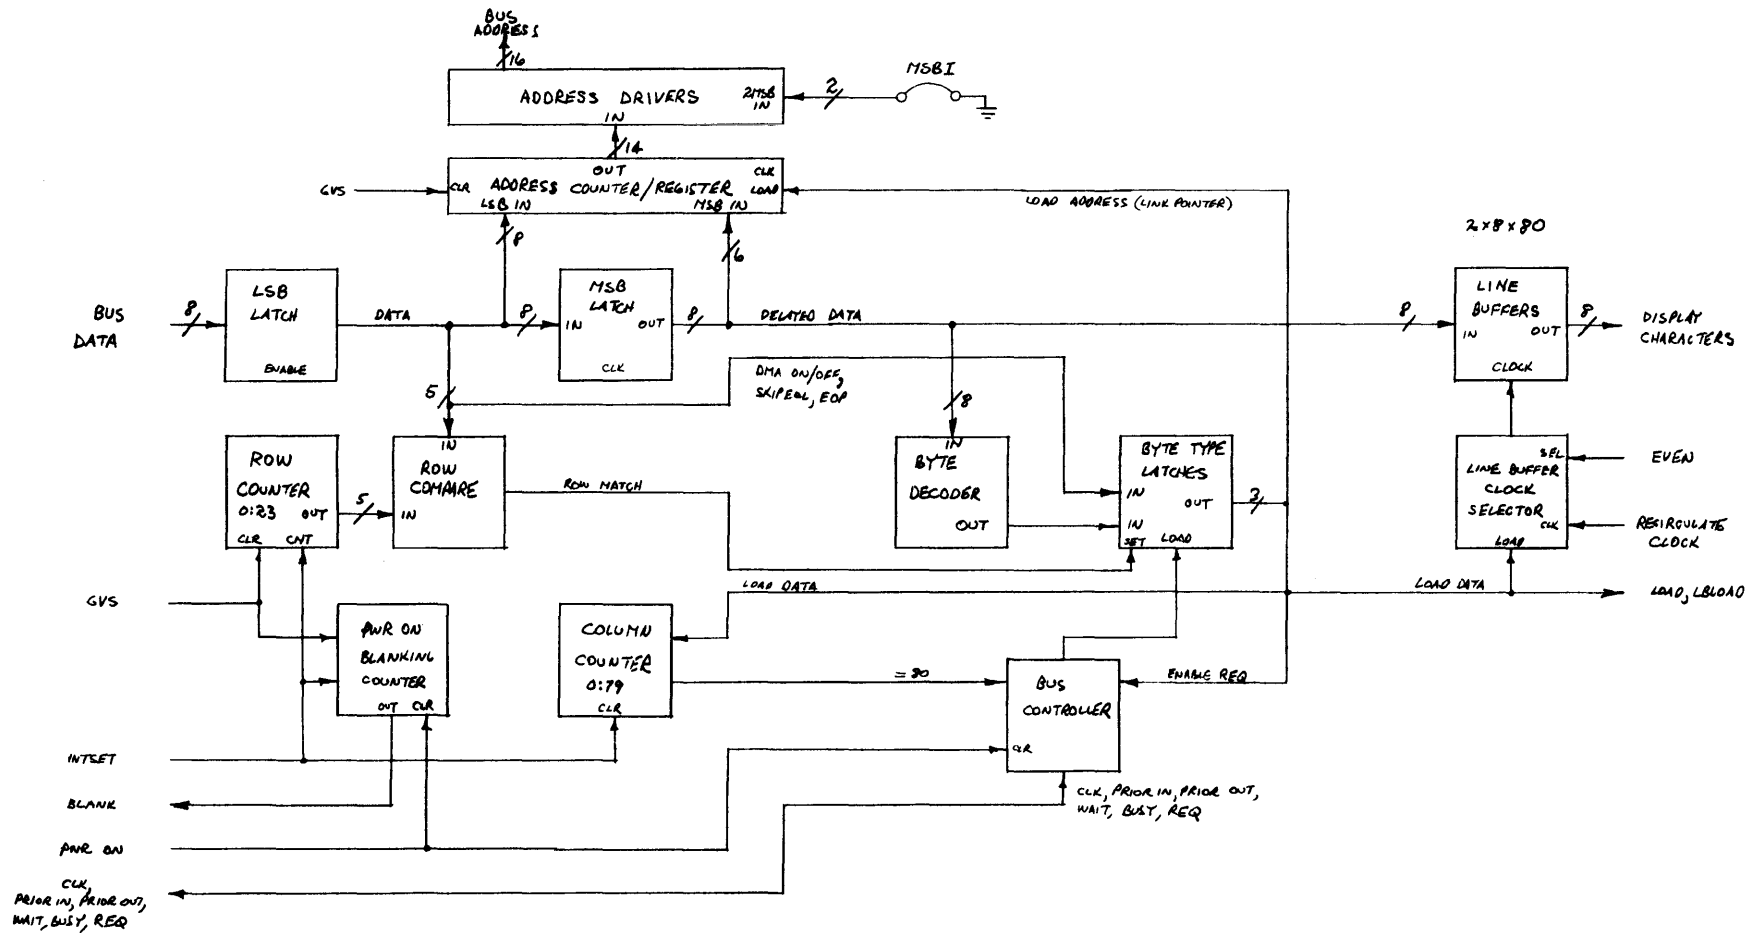
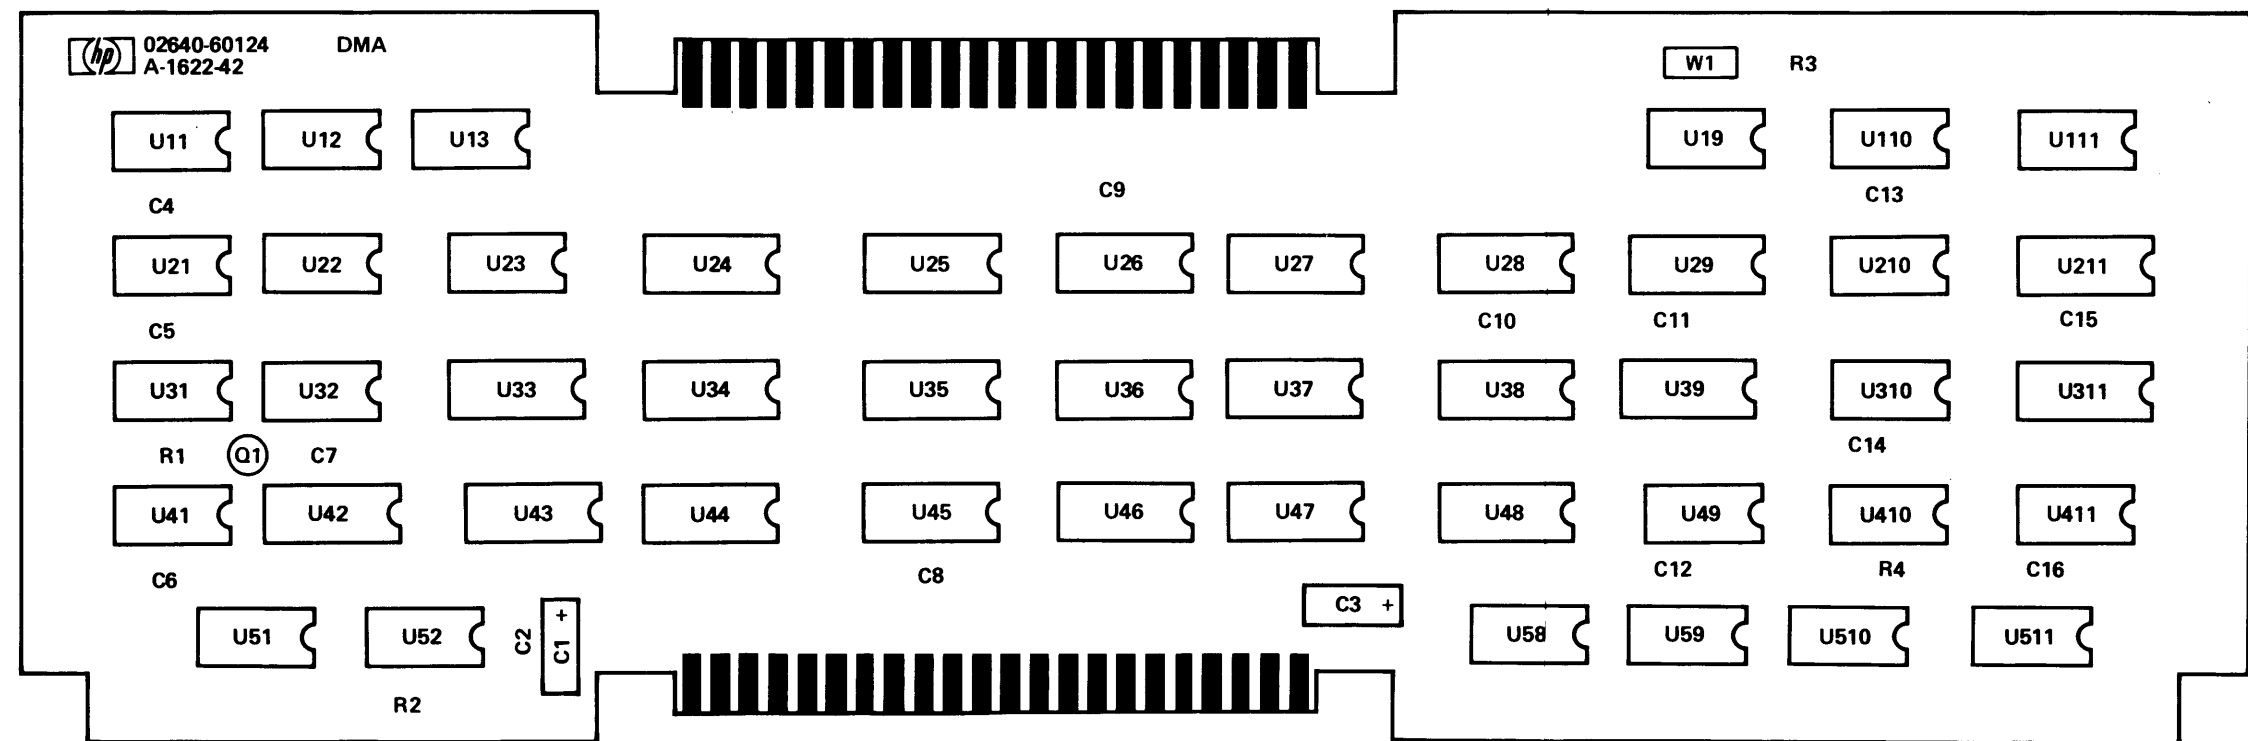

Figure 1
Figure 4
3.0 FUNCTIONAL DESCRIPTION. Refer to the block diagram (figure 1), schematic diagram (figure 2), timing diagram (figure 3), component location diagram (figure 4), and parts list 02640-60124 located in the appendix.